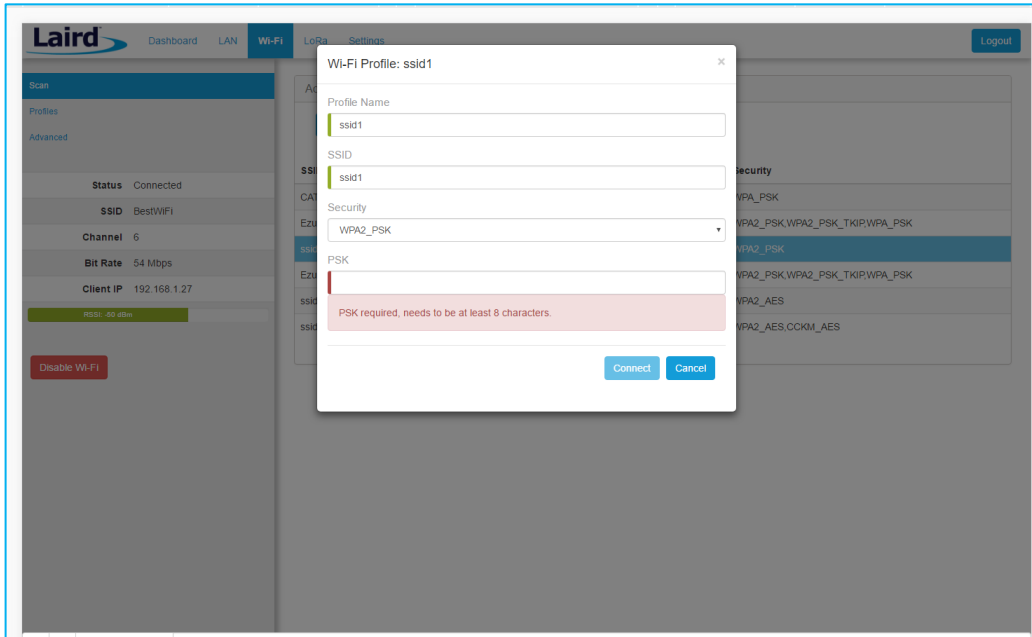

Figure 15: Wi-Fi profile window
3. In the Wi-Fi profile window, enter the appropriate credential information for your chosen Wi-Fi network (Figure 15).